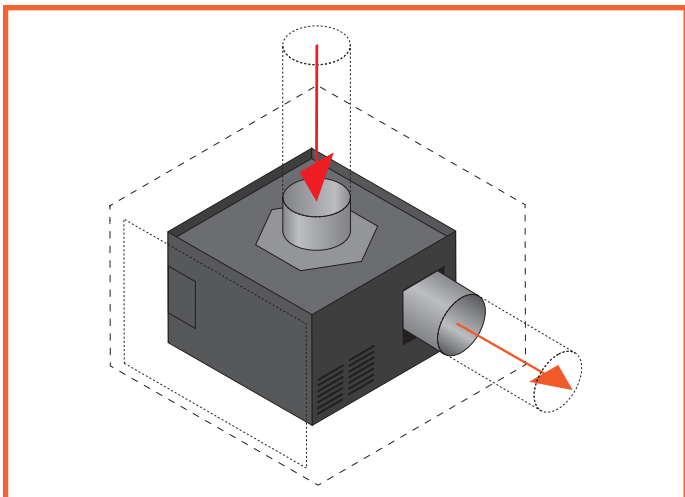

Figure 1.1 - Service area around the PowerFan MkII
**Note:** The PowerFan must be accessible at all times for service and inspection. It should be mentioned here that the regular service hatch of Element 4 (BDLE4) is not sufficient for the size of the PowerFan MkII. The installer must make a provision for this himself. *Figure 1.1.*